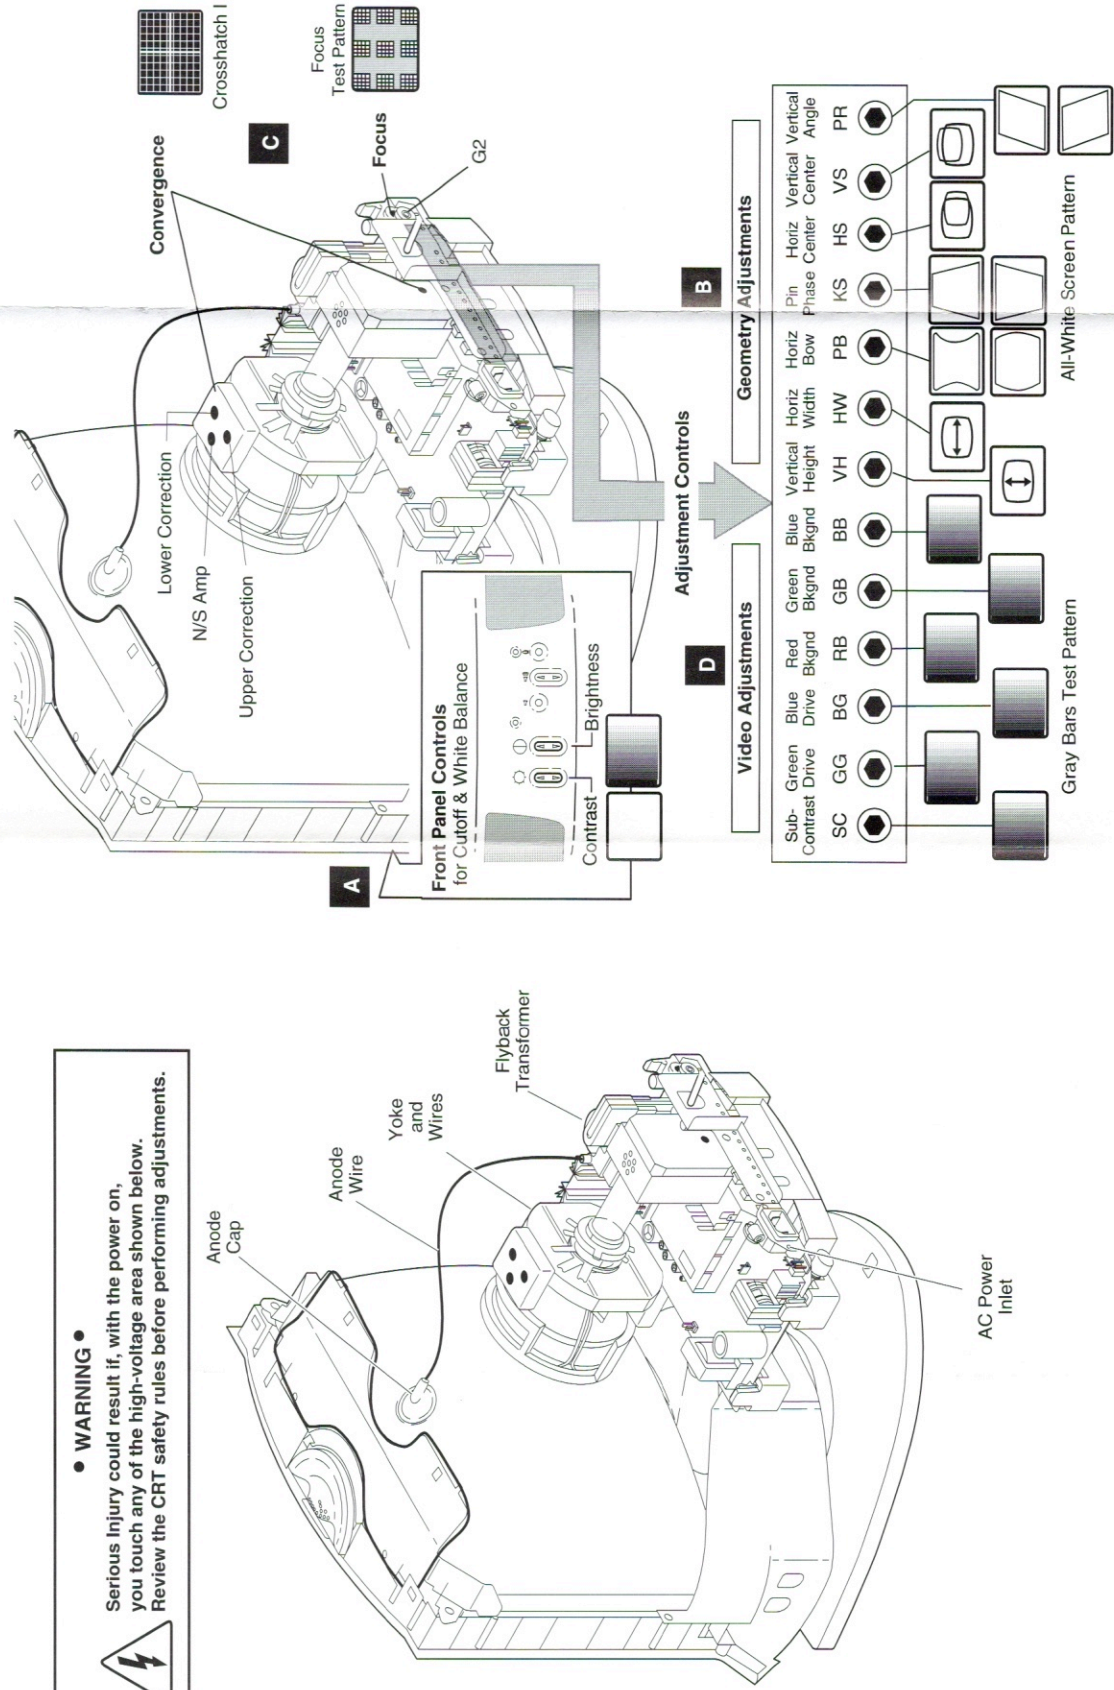

Figure 51. AudioVision 14 Display Adjustments
- Note** Reference the “Video Adjustments Foldout,” Figure 51, when performing all Geometry and Video adjustments. Unfold Figure 51 so the graphic is visible while making adjustments.